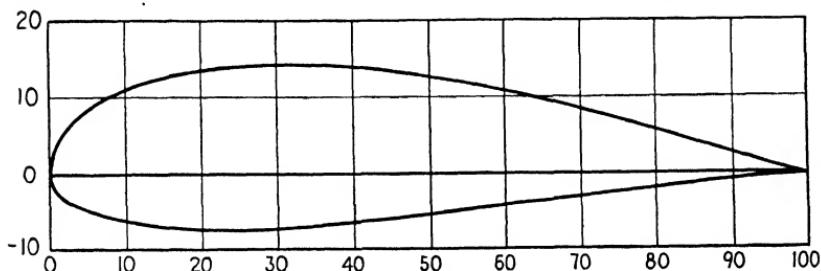

Fig. 197.
2. Give the approximate positions of all points on both the upper and lower camber of the airfoil in Fig. 197.